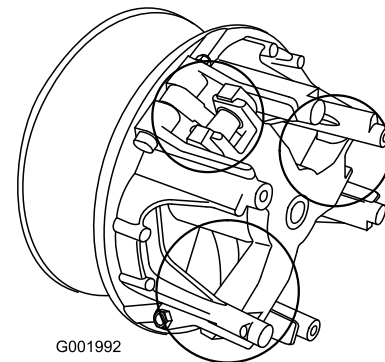

Figure 55
5. Lubricate the moving parts in the areas circled in Figure 55 using Toro Dry Lubricant Spray, available through your Authorized Toro Dealer or Distributor.